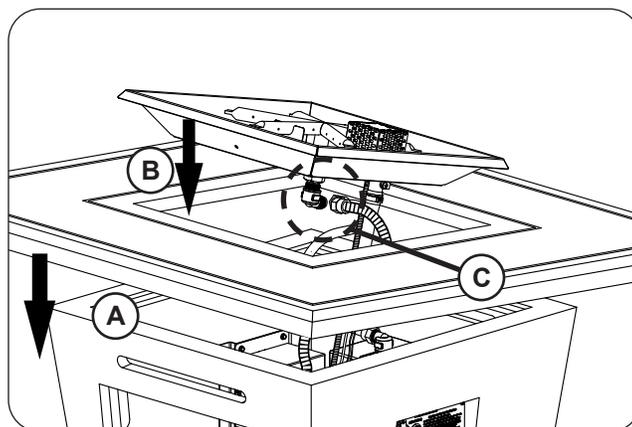

Fig. 35-2 Place top, burner, and connect flex
3. **Carefully** place the top on the unit (see Fig. 35-2, A).
4. Drop the burner assembly into the opening in the center of the firetable top, with the two burner pan holes facing toward the door (see Fig. 35-2, B).
5. Locate the flex connector (marked OUT) that is coming off the valve assembly. Route it to the connection found on the underside of the burner assembly and connect. Tighten securely. See Fig. 35-2, C.